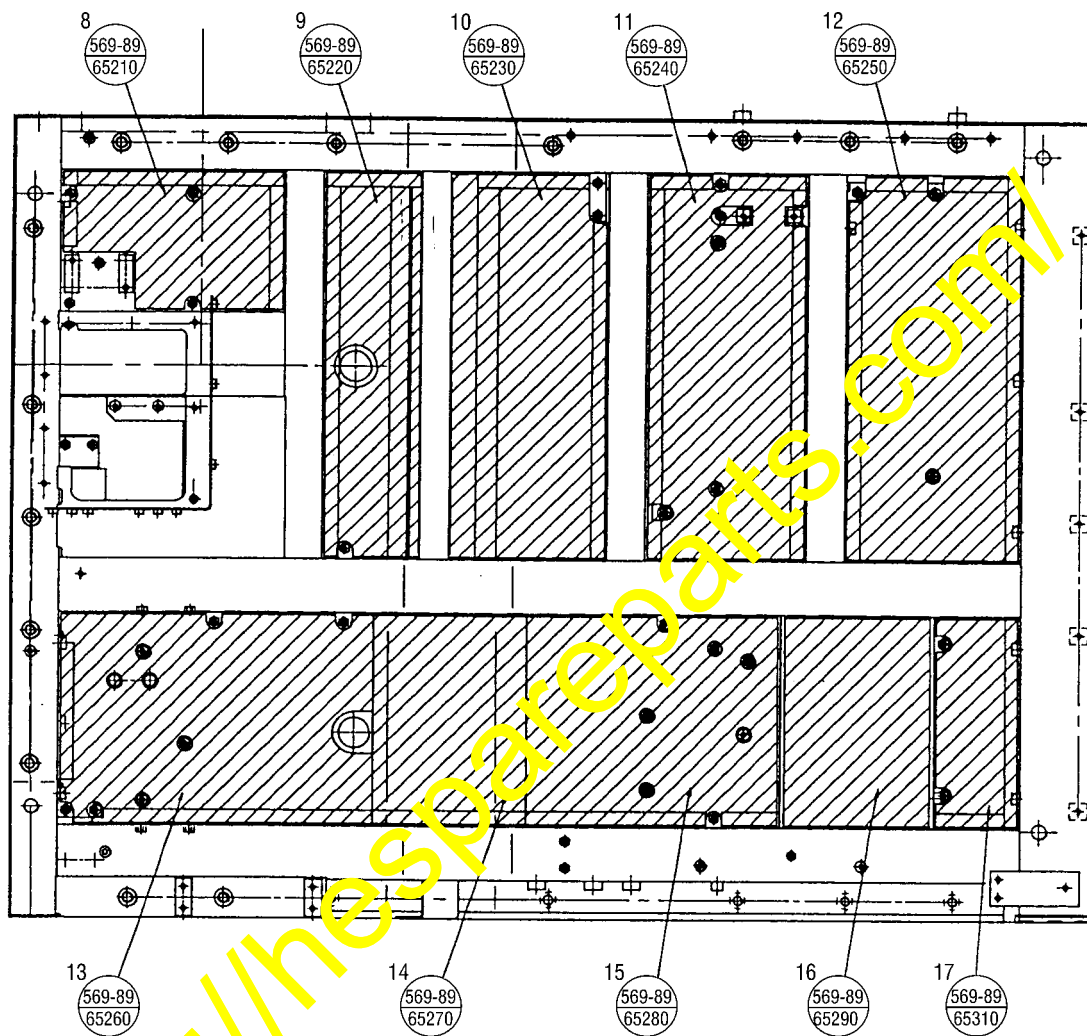
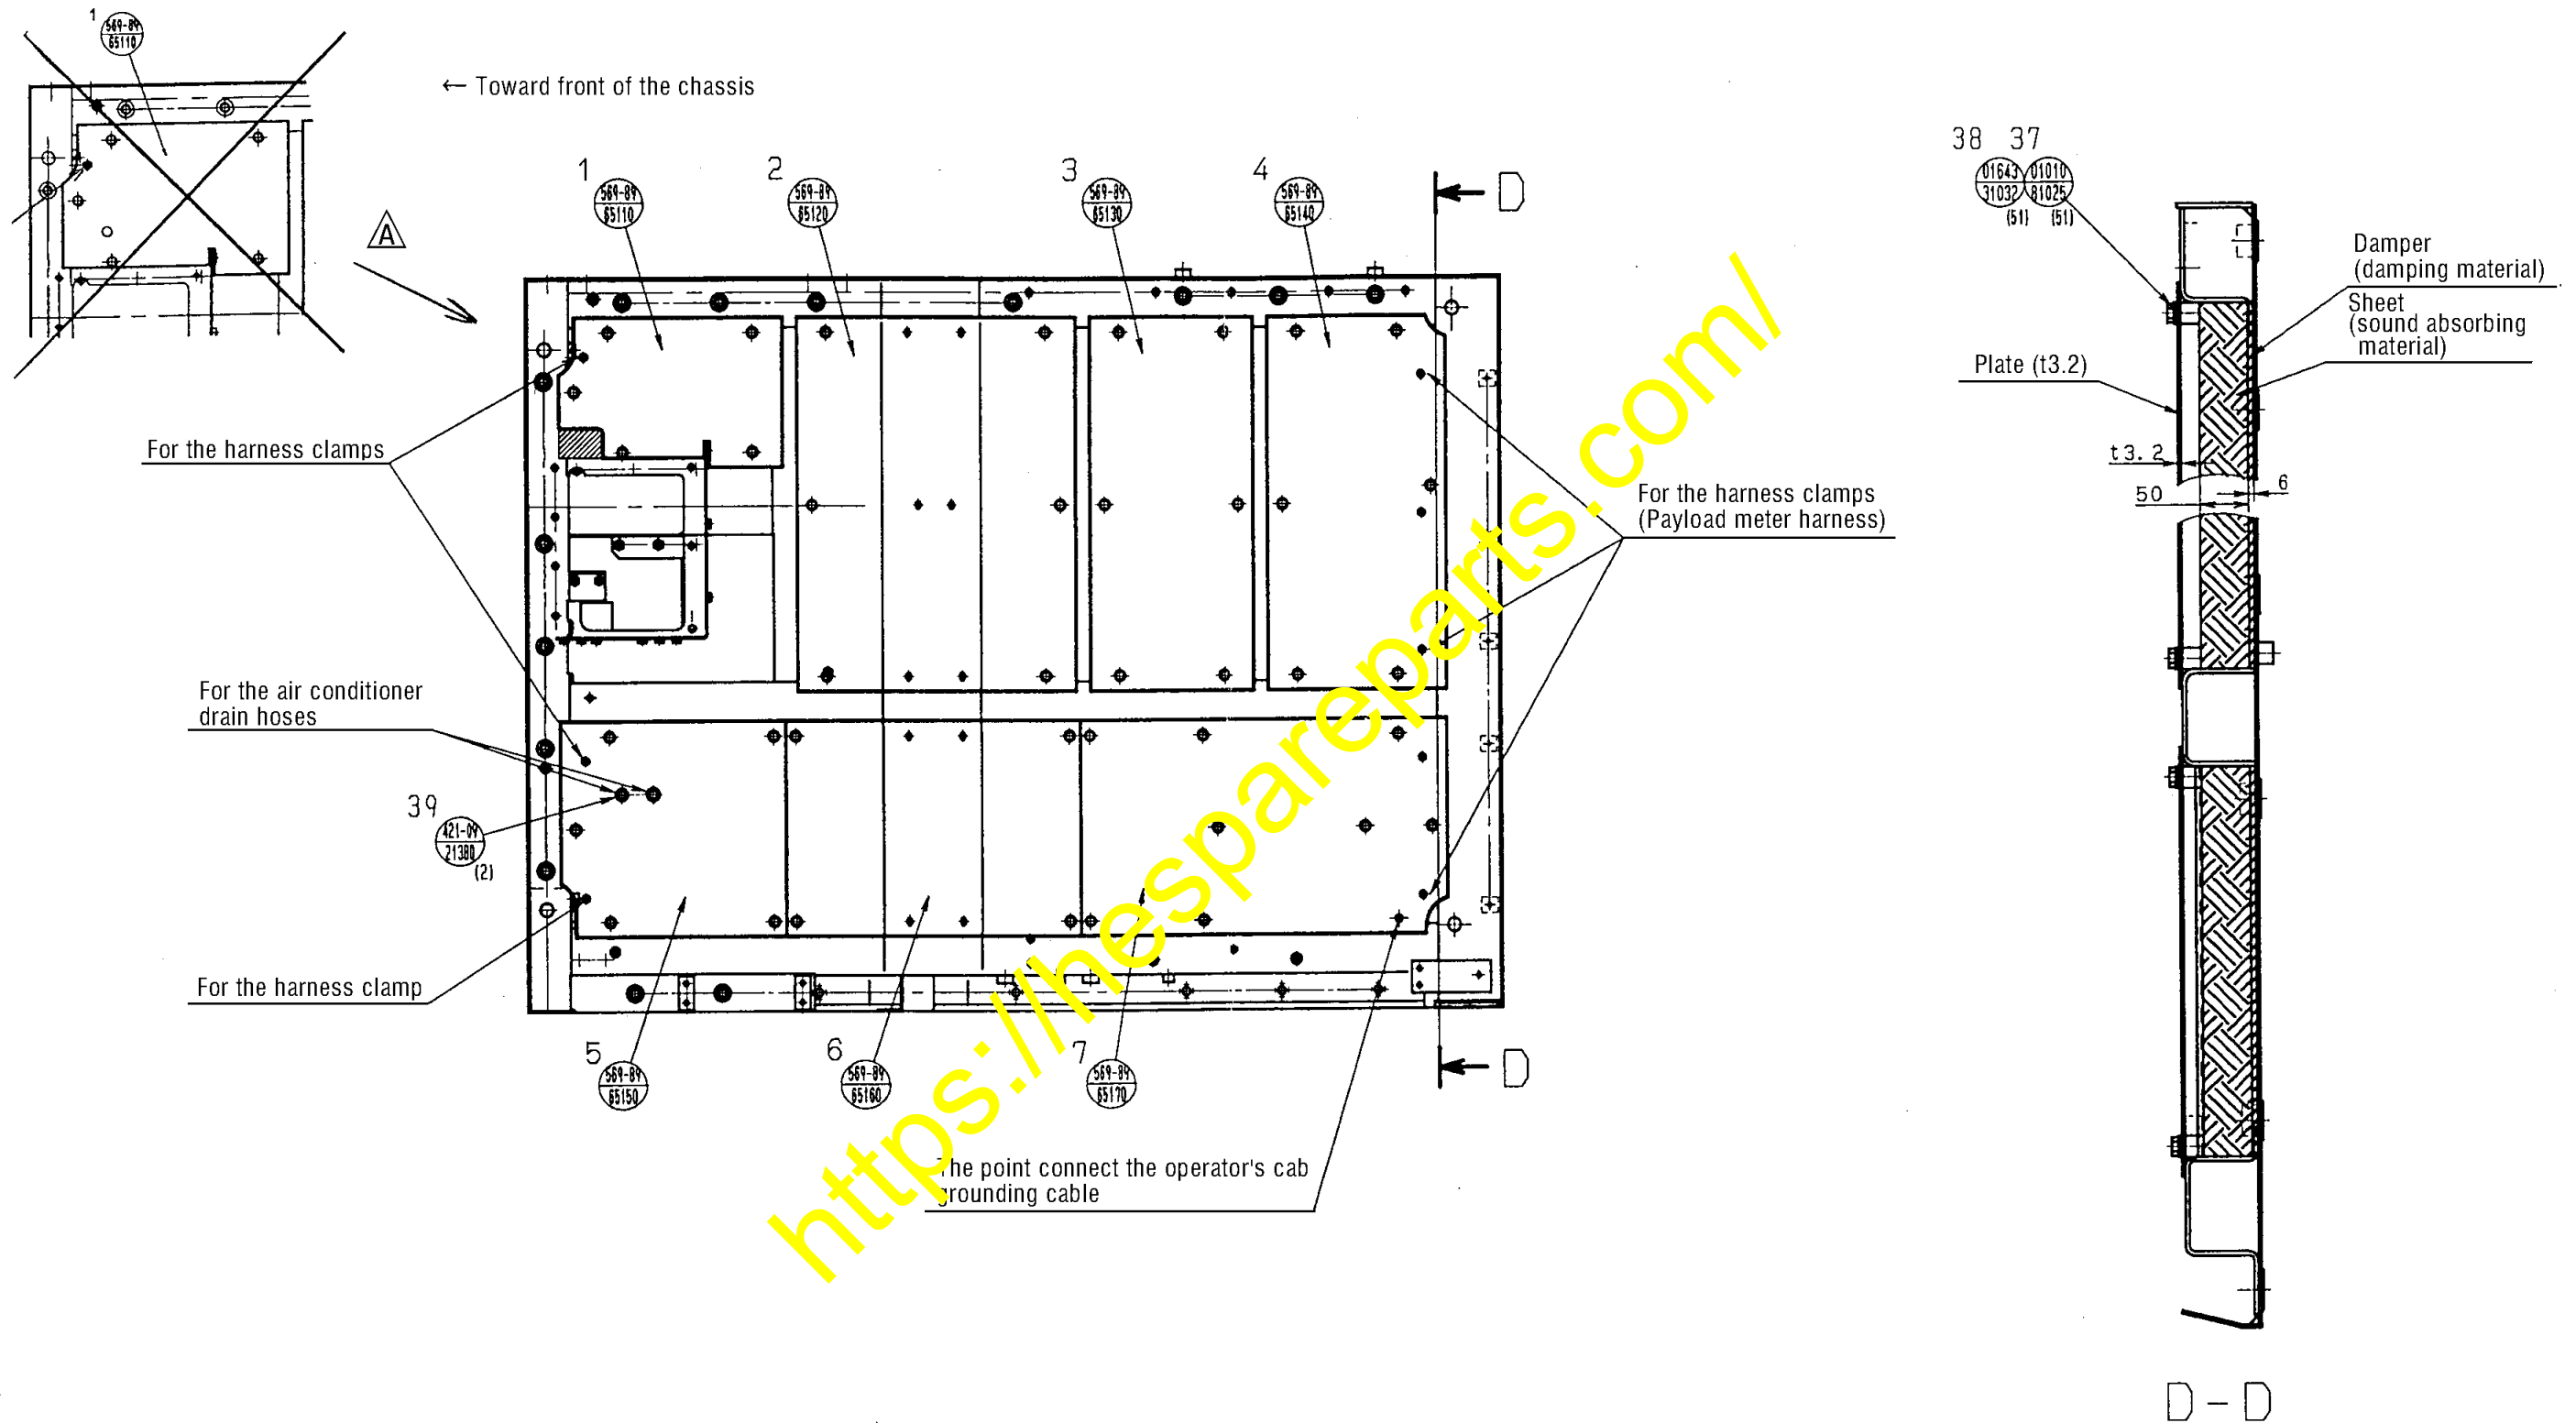

Fig. 6 Drawing for installation of the dampers (a bottom view)
Fig. 8 Drawing for installation of the plates (a bottom view)
(1) Installing the prepared parts to the bottom surface of the operator's cab floor (Refer to Fig. 6 thru Fig. 8.)